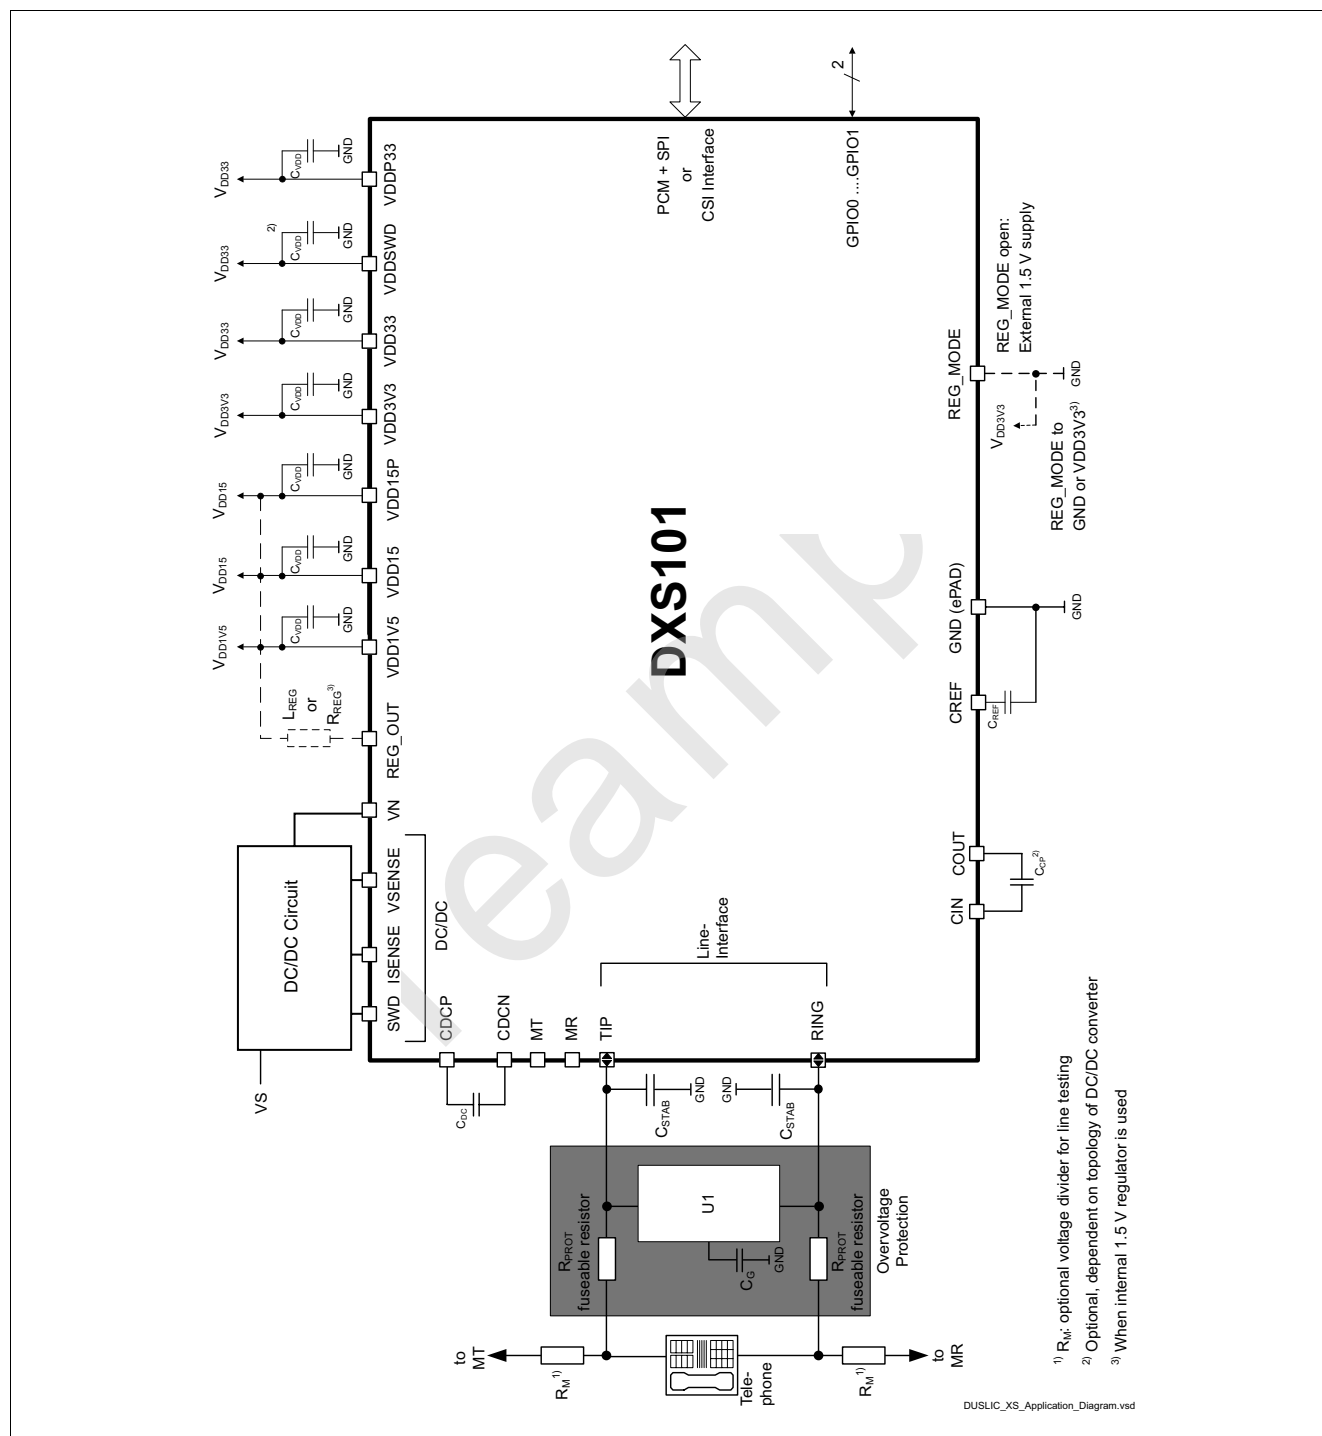
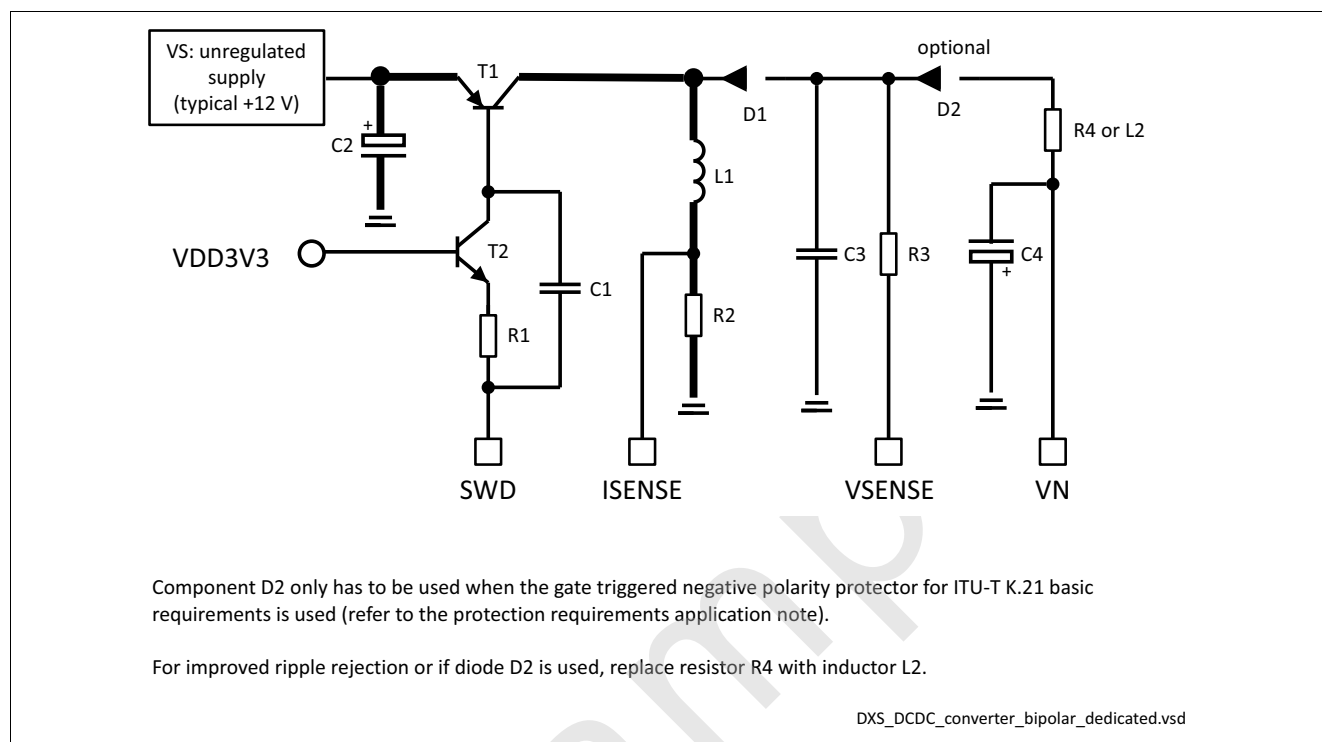

Figure 27 Application Circuit
Figure 28 Inverting Buck-Boost Converter Circuit for 12 V (IBB12)
Figure 27 shows a typical application circuit for the DXS101.
It is possible to equip the application circuit in **Figure 27** with a DC/DC converter as presented in this section.
- **Inverting buck-boost DC/DC converter with input voltage +12 V (IBB12)**, see **Figure 28**
Table 42 shows the external passive components required for a DXS101 solution with protection. For more details see **Figure 27** and **Figure 28**. The supply input is 12 V and the ringing voltage is 65 V_{RMS} with no DC offset for ringer loads of up to 3 REN or up to 5 REN with ring current regulation.
DXS101 External Components incl. Protection, see Figure 27
1.5 V Supply Regulation, see Figure 3 and Figure 27
Inverting Buck-Boost Converter Circuit T0.2 for 12 V, see Figure 28